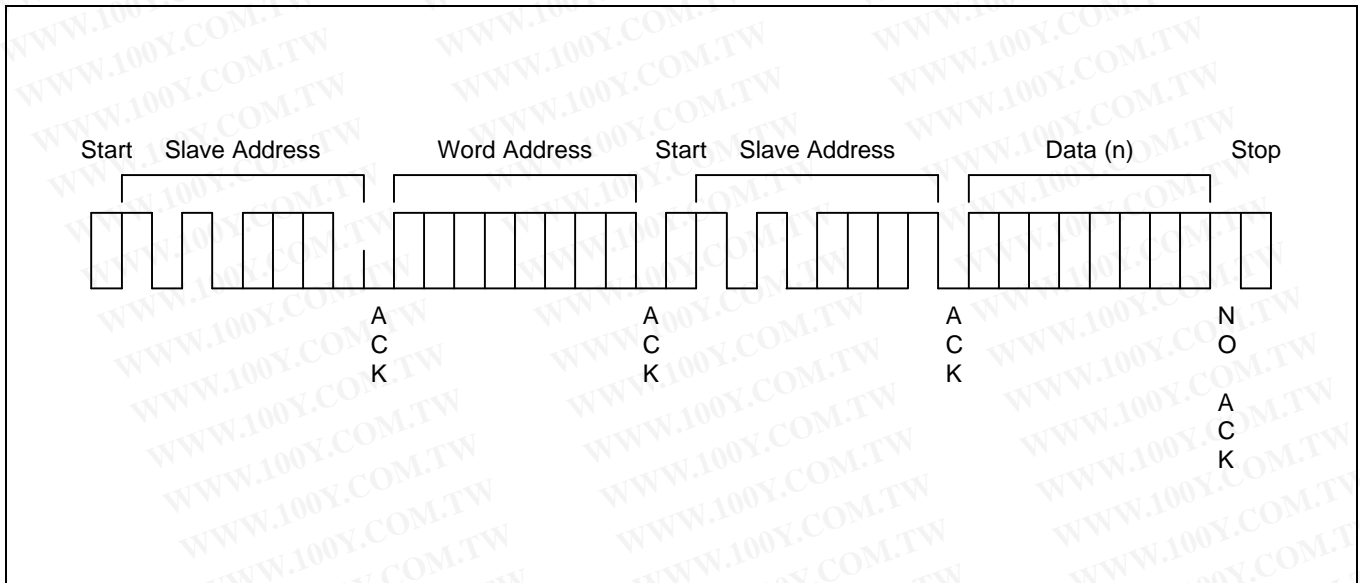

Figure 3-13. Random Address Byte Read Operation
5. In response, the S524A40X11/40X21/40X41/60X81/60X51 stops transmitting data and reverts to its stand-by mode (see Figure 3-13).